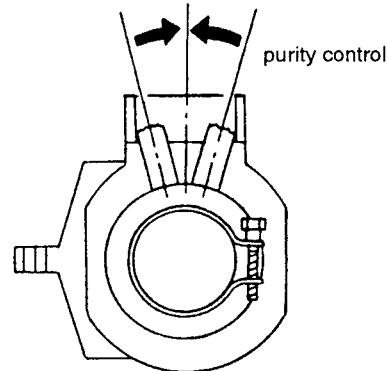

Fig. 3-1
- Loosen the deflection yoke mounting screw, and set the purity control to the center as shown in Fig. 3-1.